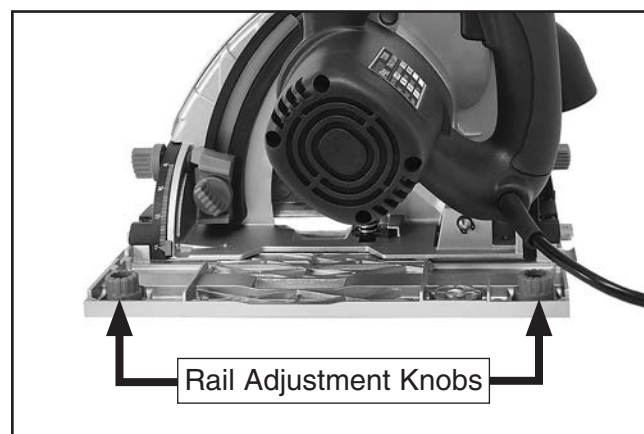

Figure 19. Location of rail adjustment knobs.
4. Adjust rail adjustment knobs to position saw along rail (see **Figure 19**).